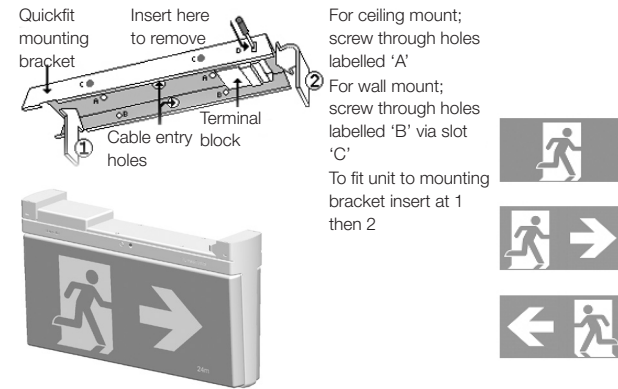

Figure 2: Quickfit insertion diagram and internal view
3. Take the mounting bracket and whilst holding it into place against the ceiling or wall, use a pencil to mark the position of the screw holes (at A or B in figure 2) and cable entry position through the bracket onto the ceiling or wall as appropriate. Make sure to allow at least 50mm of free space to the right hand side of the final location of the unit to allow for the sliding function of attaching the unit to the mounting bracket. If need be, turn the bracket around and swap the diffuser with the back plate to permit room for inserting and removing the unit from the mounting bracket. Orient the bracket in such a way as to make the LED and push button readily visible and accessible when the unit is installed.
6. Attach the unit to the mounting bracket by aligning the top left hand end of the unit (the end without the protruding electrical connecting metal lugs) with the large cut-away slot towards the left hand end of the bracket. Slip the left hand end of the unit up into the slot in the left hand end of the bracket (step (1) in figure 2) and hold the unit horizontal to and parallel with the bracket. It should be approximately 50mm to the right of its final destination. Simply slide the unit (step (2) in figure 2) 50mm to the left along and into the bracket to engage the connections and the locking tab. Once in place, the unit cannot be removed from the bracket without the use of a tool (a small screwdriver) to push in the locking tab at 'D' in figure 2. Ensure the correct pictograph inserts have been attached to the diffuser assembly.
1. Gently insert a small screwdriver into the slot (at 'D' in figure 2) on the front of the bracket towards the right hand end of the fitting, to ease the locking tab into the fitting and away from the bracket.